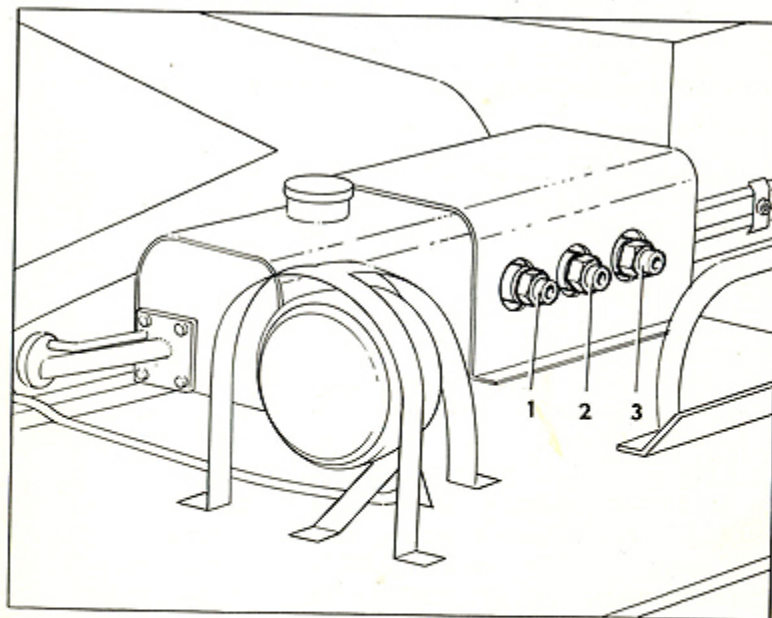

Fig. 21
Fig. 21 shows how the overflow valves are placed.
To increase the lifting power under difficult conditions when the rollers become filled with snow loosen screw 2, fig. 21. When conditions improve, the screw should be turned back to its former position to reduce the risk of overloading the hydraulic system.
- Press in the adjusting screw of one overflow valve at a time until the oil emerges at the screw, fig. 21